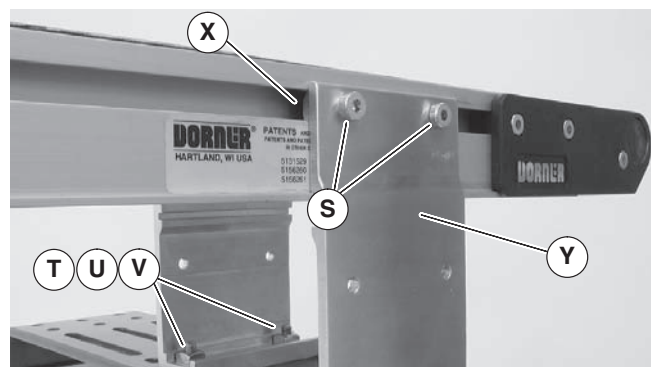

Figure 10
3. Insert T-bars (Figure 8, item W) & (Figure 9, item W) into conveyor side slots (Figure 10, item X). Fasten brackets (Figure 10, item Y) to conveyor with mounting screws (S).
4. Fasten brackets to support stand with mounting screws (Figure 10, item T), washers (U) and nuts (V).
5. Tighten screws (Figure 10, item S & T) to 60 in-lb (7 N-m).